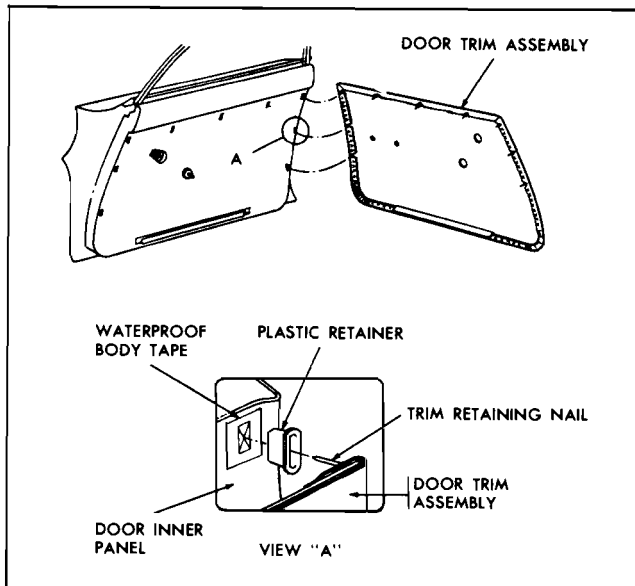

Fig. 10A-34 Door Trim Installation
2. Push handle retaining spring out of engagement and remove handle and bearing plate from door (Fig. 10A-33).